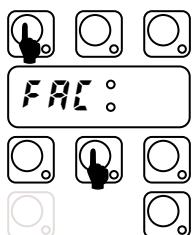

Fig. 43 Factory setting mode.
- Enter into the FACTORY SETTING mode: press and hold down ON/OFF and CYCLE\_2 keys for at least **5 seconds** (Figure 43);